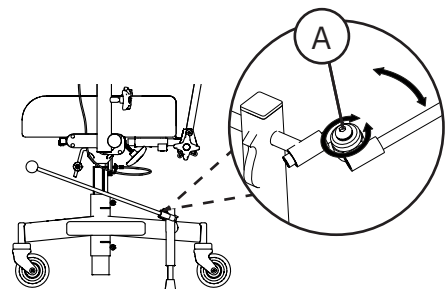

Figure 5.17. Handbrake lever adapter.
The adapter can be placed on the right or left side of the based and adjusted at an angle (A), see Figure 5.17. The adapter is placed in the brake lever bracket and the brake lever is then placed in the adapter.